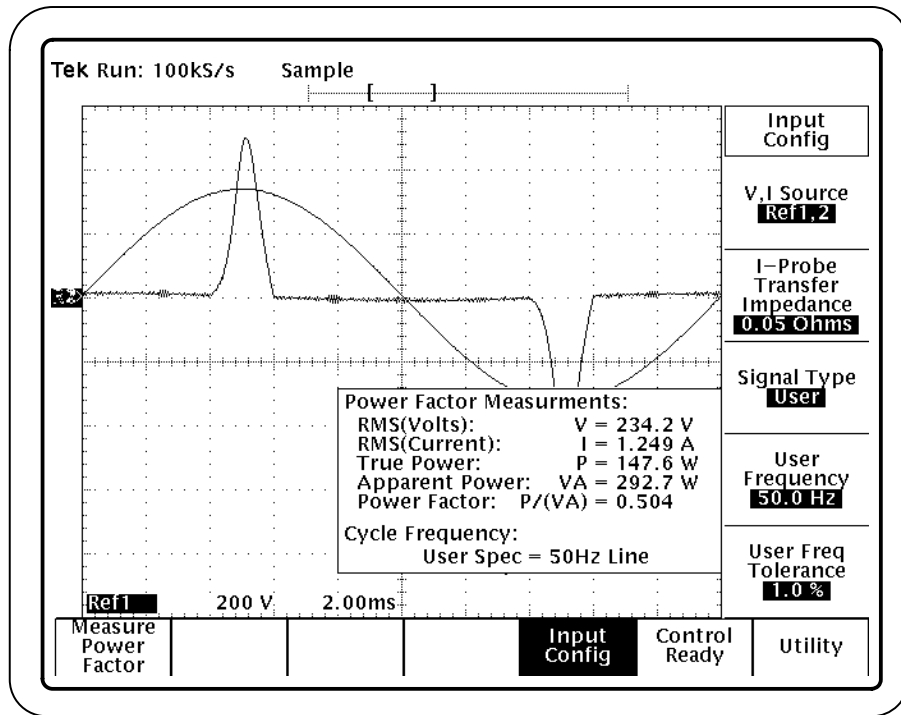

Figure 23: User-defined signal frequency for the Power Factor lesson
3. Press User Frequency (side) and use the keypad to enter 50 Hz. Figure 23 shows the Input Config menu with a user-defined signal frequency of 50 Hz.
4. Press User Freq Tolerance (side) and use the keypad to enter 1.0%. Figure 23 shows the Input Config menu with the tolerance of the user-defined signal frequency set to 1.0%.